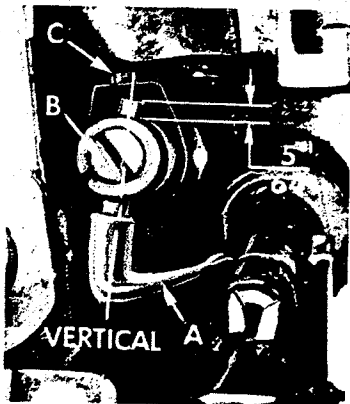

Fig. 6
Insert upper looper (A, Fig. 6) in its holder. Screw (B) holds the looper in its holder and permits looper to be pushed in or out, or turned around its shank. Screw (C) on the collar, holds looper holder in the shaft and allows the holder to be rotated or adjusted laterally.
Preliminary Setting: When looper is at the right end of its stroke, looper holder should be set to position the looper shank about vertical (Fig. 6). The top end of the looper shank should extend approximately $5/64$ inch above holder (Fig. 6).